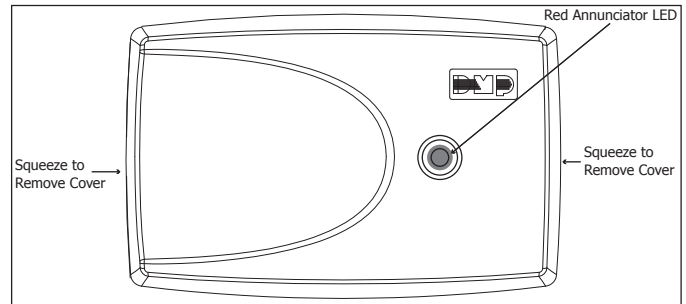

Figure 1: 1118 Wireless Remote Indicator Light
1. Squeeze the cover left and right sides together to remove. Lift the cover up and away from the base to avoid damage to the Red LED. See Figure 1.
See Figure 1.